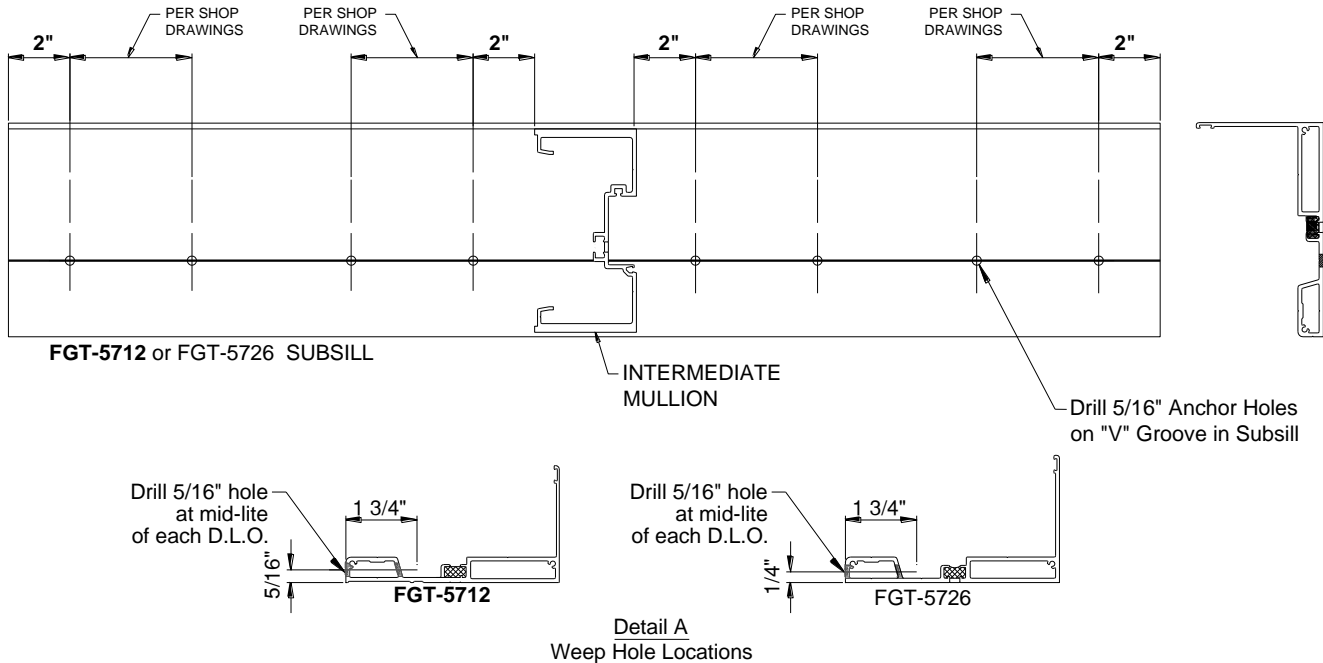

Figure 3: Subsill Fabrication
- 3.1 Drill 5/16" weep holes along front face of **FGT-5712** or **FGT-5726** Subsill at mid-lite located at the noted height from bottom of Subsill shown in *Figure 3, Detail A*. Drill weep holes 1-3/4" deep to penetrate into center section of subsill.
- 3.2 Fabricate **FGT-5712** or **FGT-5726** Subsill for anchor installation placing holes at 1-3/4" from face of Subsill. Hole shown are generic locations and should be located per approved Shop Drawings. Reference *Figure 3*.